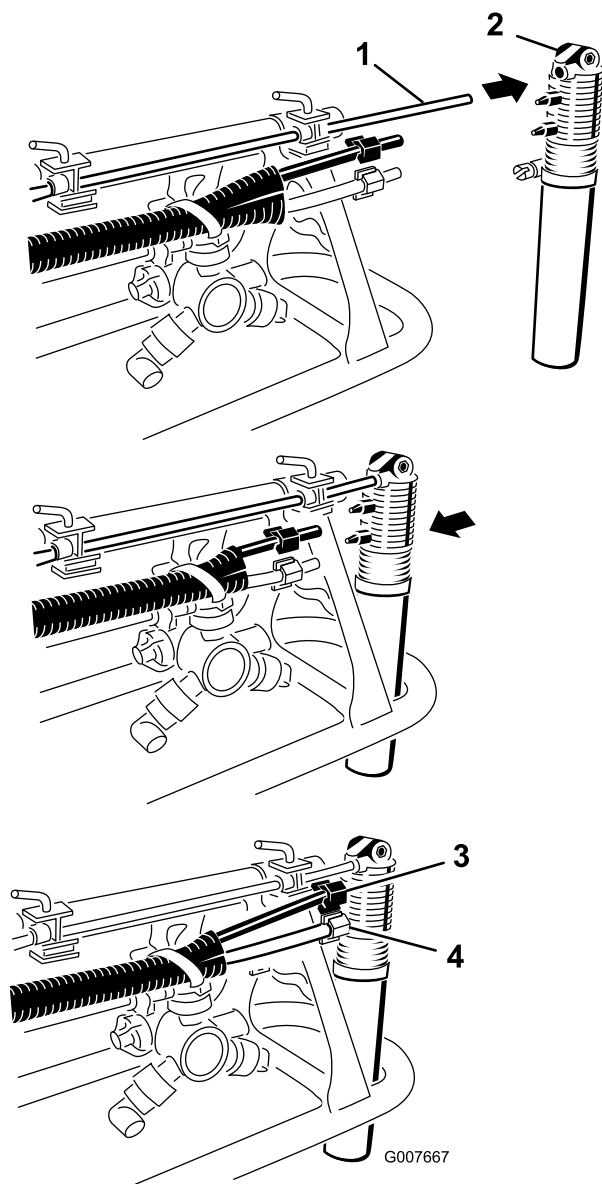

Figure 14
6. Locate the foam nozzles in loose parts. Install a nozzle to the mounting rod as shown (Figure 14).